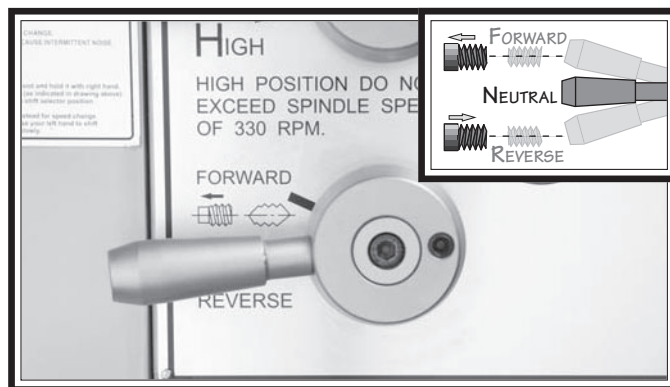

Figure 28. Feed direction lever in neutral position.
4. Move the feed direction forward/reverse lever (**Figure 28**) to the neutral position.